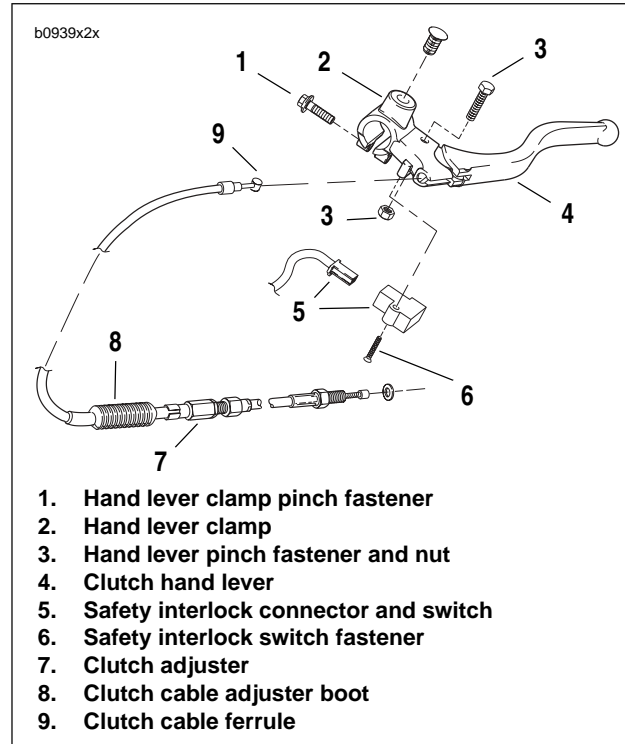

Figure 2-88. Clutch Hand Control Assembly
2. See Figure 2-88. Slide clutch cable adjuster boot (8) up to access clutch adjuster (7).
3. Loosen clutch adjuster (7) to release tension from hand lever (4).
4. Remove clutch cable ferrule (9) from hand lever (4).
5. Remove hand lever pinch bolt (3).
6. Remove hand lever (4) from hand lever clamp (2).
7. Remove safety interlock switch (5).
- a. Remove hand lever clamp fastener (1) and spin clamp (2) to access safety interlock switch (5).
- b. Disconnect safety interlock switch connector (5) and remove switch fastener (6) and switch (5).
1. See Figure 2-88. Slide hand lever clutch clamp (2) over left clip-on. Loosely tighten hand lever pinch fastener and nut (3).
3. Connect safety interlock connector and switch (5).
4. Install safety interlock switch (5) with fastener (6) tightening to 7-10 **in-lbs** (0.8-1.0 Nm).